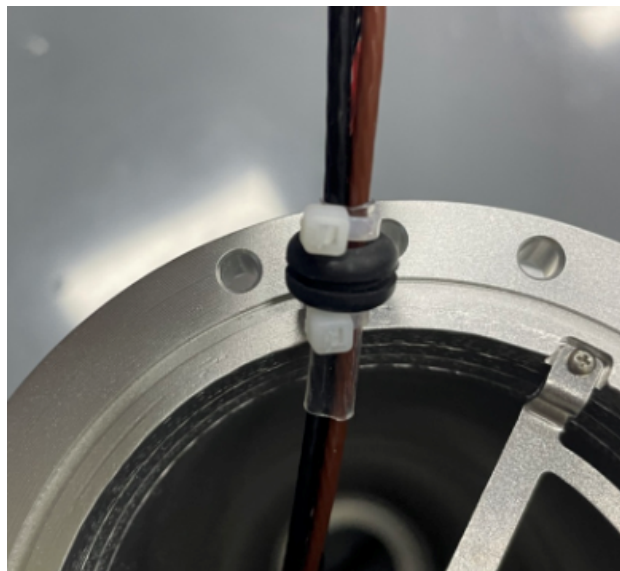

Figure 3-20 : Tie the wire
- Put the rubber wire guard ring on the corresponding wire bundle, and tie the cable tie at both ends of the wire guard ring, as shown in **Figure 3-20** :